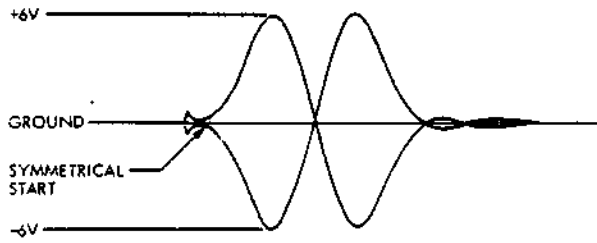

Figure 6-6. X + 0 Waveform, One-Track Repetitive Seek (TP20)
- (1) Select Channel 1.
- (2) Observe the amplitude of the waveform at TP20 as shown in Figure 6-6 while performing a one-track repetitive seek.
- (4) If the acceptable limits are not met, perform the adjustment given in Paragraph 6.9.2.3, Step (1), before continuing this procedure.
- (5) Check that the waveform at TP20 is balanced about ground as shown in Figure 6-6.
- (6) If the waveform observed in Step (5) is not balanced about ground, perform the adjustment given in Paragraph 6.9.2.3, Step (2), before continuing this procedure.
- (7) Check that the start of the waveform is balanced about ground as shown in Figure 6-6.
- (8) If the start of the waveform observed in Step (7) is not balanced about ground, perform the adjustment given in Paragraph 6.9.2.3, Step (3), before continuing this procedure.
- (9) Select Channel 2.
- (11) If the start of the waveform observed in Step (10) is not balanced about ground, perform the adjustment given in Paragraph 6.9.2.3, Step (4), before continuing this procedure.
- (12) Set oscilloscope to Chop mode.
- (13) Repeat Paragraphs 6.9.2.2, Steps (7) and (10), and observe TP20 (Figure 6-6) and TP16 (Figure 6-7) at the same time, alternately adjusting R22 and R204 so that the start of waveforms at TP20 and TP16, respectively, are balanced about ground.
- (14) Select Channel 1.
- (15) Move Channel 1 test probe to TP2.
- (23) If the crossover point observed in Step (22) does not occur at ground, perform the Dynamic Reticle-to-Scale Phase Adjustment procedure detailed in Paragraph 6.9.3 before continuing this procedure.
- (24) Check that the X + 0 waveform at TP20 meets all requirements shown in Figure 6-6, i.e., waveform amplitude, symmetrical start, waveform balanced about ground, correct crossover point. If the waveform observed does not meet these requirements, repeat Steps (1) through (24) of this procedure.
- (25) If the Static Positioner Adjustments (Paragraph 6.8) were performed prior to performing the Dynamic Positioner Adjustments (Paragraph 6.9), tighten the hex-head screw on the thermal block loosened in Paragraph 6.8.3.3, Step (1).
- (26) Proceed with the Current Adjustment in Paragraph 6.9.4.
- (1) Observe TP20 and set R69 to attain a 12v peak-to-peak envelope.
- (2) Observe TP20 and set R70 so that the waveform is balanced about ground (Figure 6-6).
- (3) Observe TP20 and set R22 so that the start of the waveform is balanced about ground (Figure 6-6).
- (2) Observe the amplitude of the waveform at TP20 (Figure 6-6).
- (3) Acceptable limits:
- (4) If the acceptable limits are not met, adjust R69 to obtain a 12v peak-to-peak envelope at TP20.
- (6) If the waveform at TP20 is not balanced about ground, adjust R70 until the observed waveform is balanced about ground.
- (7) Check that the start of the waveform at TP20 is symmetrical about ground as shown in Figure 6-6.
- (8) If the waveform is not symmetrical about ground, adjust R22 so that the start of the waveform viewed at TP20 is symmetrical about ground.
- (9) Select Channel 2 and check that the start of the waveform at TP16 is symmetrical about ground.